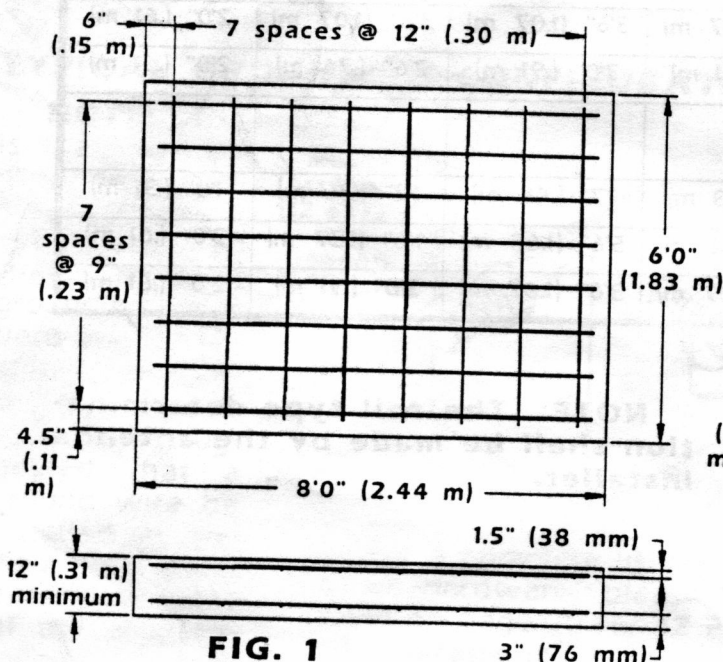

FIG. 1
1. The footings should be poured as level as possible in accordance with the dimensions shown in Fig. 1 in order to adequately support the antenna during violent weather, hard freeze, or muddy conditions. **NOTE:** It is recommended to use eye bolts in the corners of the footings to tie down the antenna during assembly and in areas subject to high winds. Eye bolts may be installed later with expansion sleeves, if necessary.
2. Place eight #4 (10 mm) diameter reinforcing bars each way as shown in Fig. 1 at 3" (76 mm) from bottom. Place eight #4 (10 mm) diameter reinforcing bars each way as shown in Fig. 1 at a depth of 1 1/2" (38 mm).